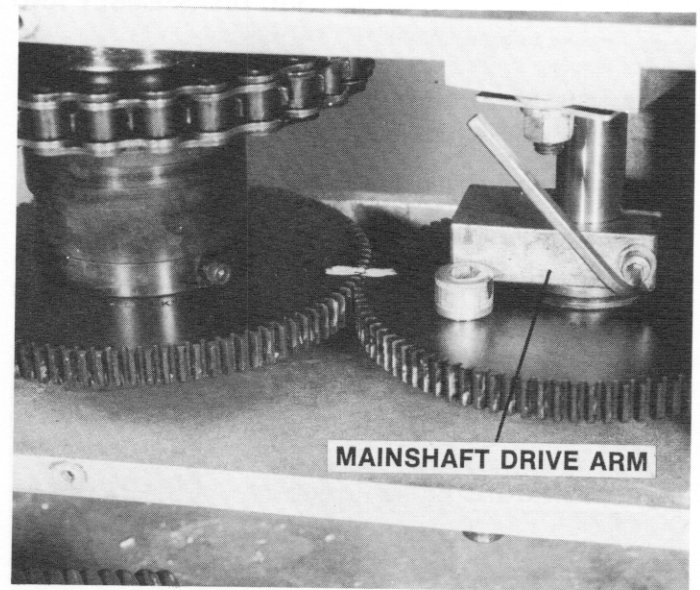

Figure 13 — Match Mark on Mainshaft Gear and Clutch Gear
- L. Paint match mark on mainshaft gear and clutch gear to retain orientation for reinstalling (see Figure 13).
- M. Loosen mainshaft drive arm lock screw (see Figure 13), slide drive arm upward and remove drive arm key.
- O. Mainshaft sprag clutches may be examined by removing the two mainshaft clutch housing nuts (see Figure 13) to allow removal of clutch housing.
- C. Match mark cocking clutch gear and mainshaft gear (see Figure 13). This permits gears to be correctly phased when reassembling.
- E. Rotate clutch until cocking clutch lock screw can be backed out about 1/4" with an allen wrench. This screw is the larger of two screws through the side of the cocking clutch, just above gear (see Figure 13).
- A. Reinstall cocking clutch and be sure the match marks on cocking clutch gear and mainshaft gear are in alignment (see Figure 13). Install cocking clutch shaft. If the match marks become misaligned during the assembly, they can be realigned by following the procedures in Section VII-5 page 10).